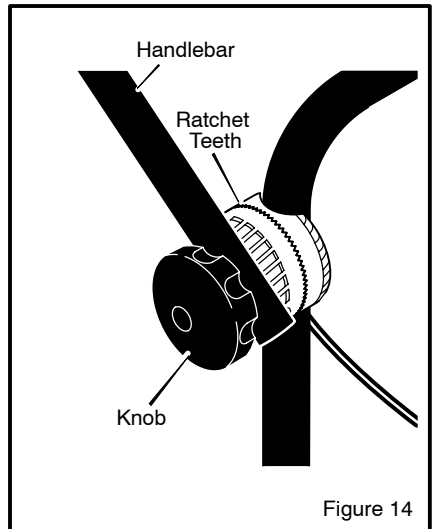

Figure 14
1. Hold the **handlebar** with one hand and loosen both **knobs** until the **ratchet teeth** are disengaged. Do not remove the **knobs**. See Figure 14.